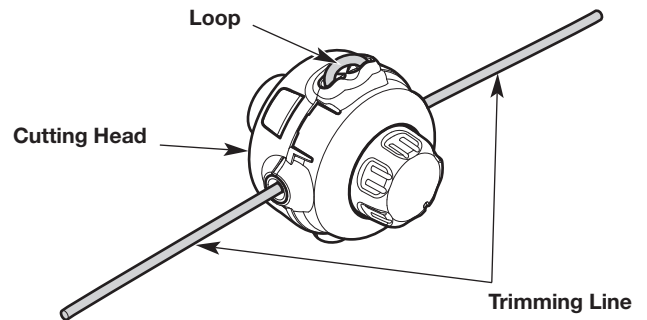

Fig. 26
1. Remove the old line from the cutting head. Push one end of the trimming line into the cutting head until a loop of line protrudes from the head. Pull the loop to remove the line (Fig. 26).
5. Pull the ends of the line until the line is tight against the cutting head. Make sure the ends of the line are of equal length (Fig. 26). If one end is longer than the other, push the longer end back through the cutting head partway and pull the shorter end out. If necessary, repeat this process until both ends are of equal length.
6. Press the exposed loop of trimming line until it is tight against the cutting head (Fig. 26).